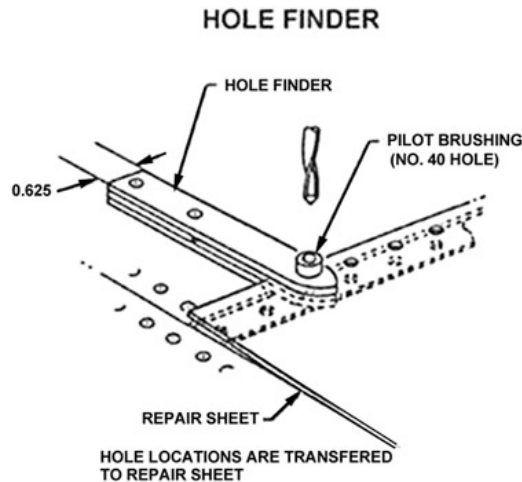

Figure 2-24. Methods of locating blind holes.
When you install a nonflush repair in a blind area that has existing fastener locations, laying out the fastener locations on the part creates two problems: (1) locating the holes in the patch plate; and (2) centering the patch plate over the cutout area for proper material allowances on both sides of the damaged area. You can overcome the problem of locating holes in the patch plate by using a hole finder. A hole finder is the fastest most accurate method for locating blind fastener holes. Figure 2-24 is an example of one size hole finder.